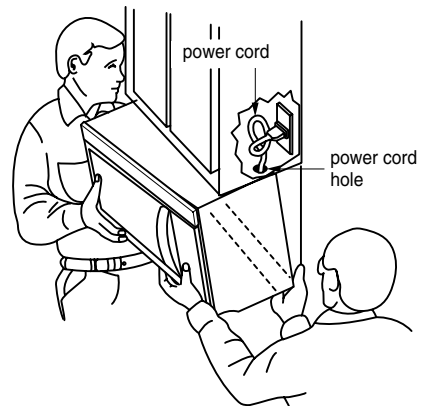

Figure 32
1. Carefully lift microwave oven and hang it on support tabs (See Figure 28) at the bottom of the mounting plate. Reaching through upper cabinet, thread power supply cord through the power supply cord hole in the bottom of the upper cabinet. See Figure 32.